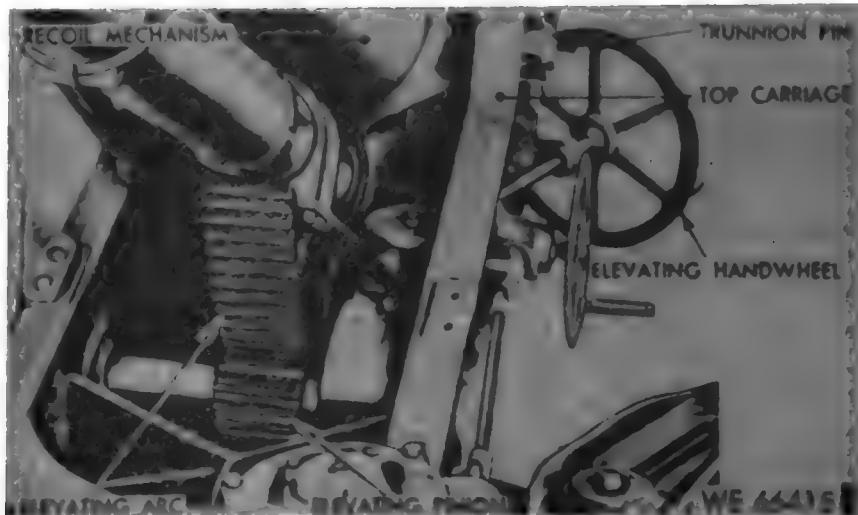

Figure 132. Elevating mechanism—left front view.
(1) The top carriage (figs. 1 and 69) is of welded steel construction. It supports the howitzer and recoil mechanism (fig. 6), the elevating mechanism (fig. 132), the traversing mechanism, the
a. *Elevating Mechanism.* The elevating mechanism controls the movement of the weapon in elevation and depression by tipping the recoil mechanism and cannon on the trunnion pins (fig. 132) secured in the top carriage. Motion of the elevating mechanism handwheel assembly is transmitted through shafts, a flexible joint, gears, a worm, and a worm wheel to the elevating pinion which meshes with the elevating arc, mounted on the underside of the recoil mechanism.